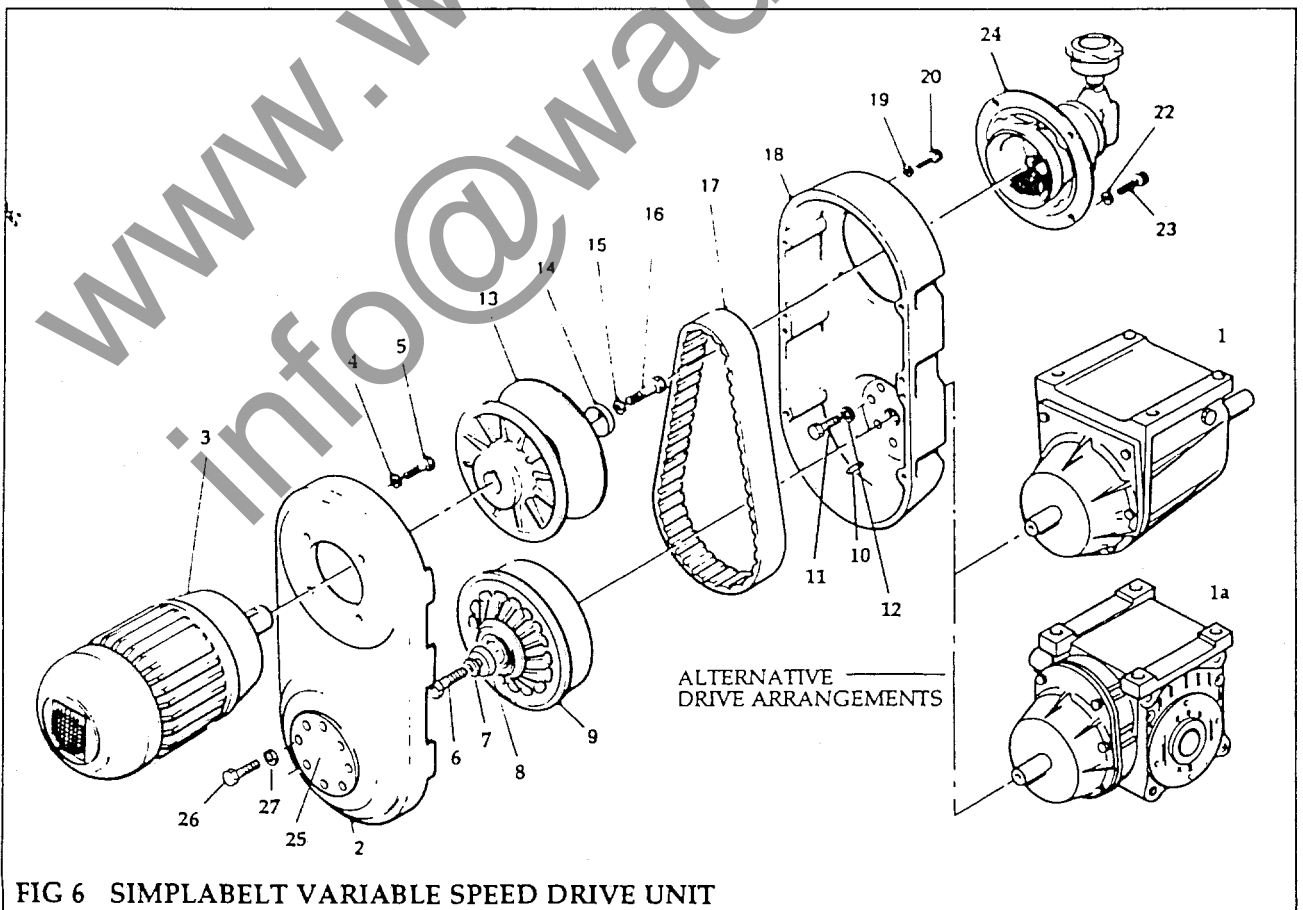

FIG 6 SIMPLABELT VARIABLE SPEED DRIVE UNIT
- (1) Ensure that mating taper surfaces are completely clean and free from oil or dirt. Insert bush in hub and line up screw holes.
- (2) Oil thread and point of grub screws, or thread and head of cap screws. Place screws (1) loosely in threaded holes in hub of pulley.
- (3) Clean shaft, fit hub and bush to the shaft as a unit. Locate in position. On fitting, the bush will nip the shaft first, then hub will be drawn onto bush.
- (4) Using a hexagon key, alternately tighten screws (1), until all screws are pulled up securely. Use a short length of pipe on key to increase leverage.
- (5) After the bush (3) has been tightened onto the shaft, fit the parallel key (4). The key is side fitting with top clearance.
- (6) After the drive has been running under load for a short time, stop and check tightness of screws. Tighten if needed.
- (7) Fill empty screw holes with grease to exclude dirt.
**Variable Speed Drive Pulleys (Fig.6)**